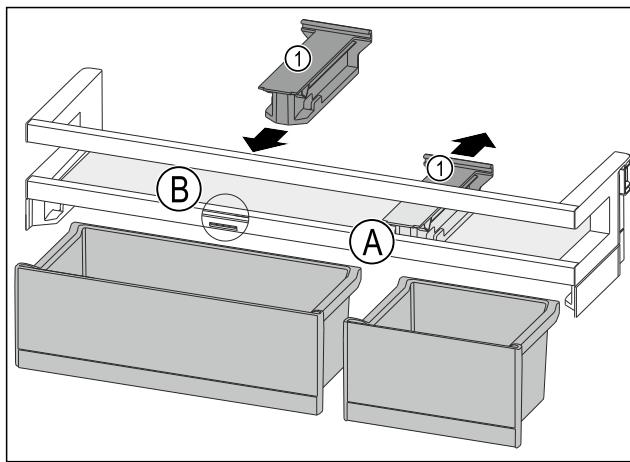

Fig. 125
- ▶ Take off the holding part Fig. 125 (1) in position Fig. 125 (A) backwards.
- ▶ Insert the holding part Fig. 125 (1) in position Fig. 125 (B).